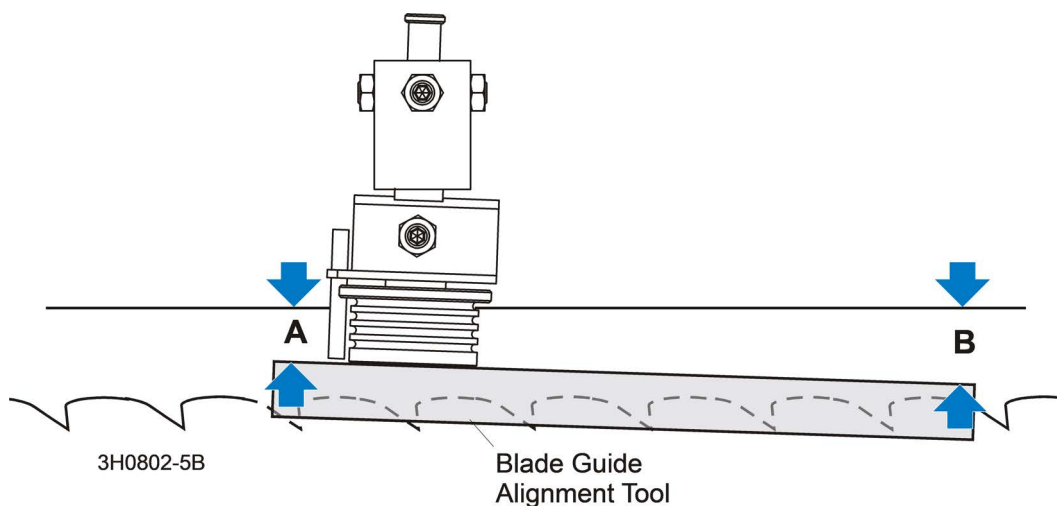

FIG. 5-6
2. Remove the clip from the blade guide alignment tool and place the tool against the face of the outer blade guide roller. See FIG. 5-6.